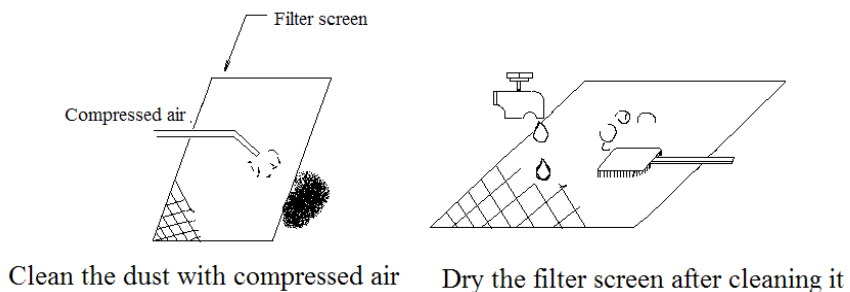

Fig. 8
- Check filter screen and clean the dust (see Fig. 8);